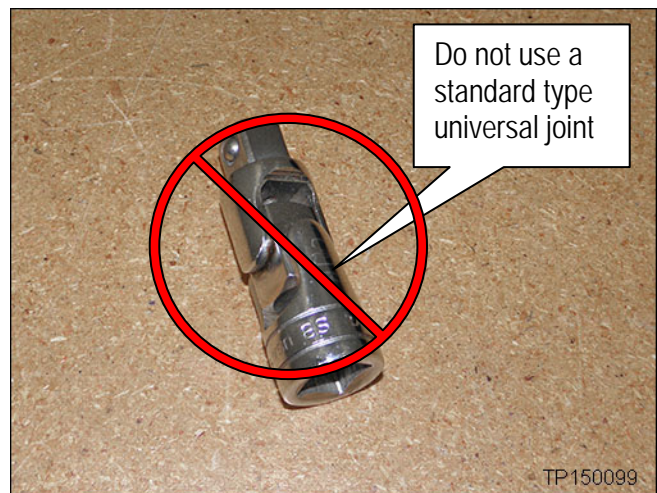

Figure A10
- Make sure the socket and universal joint are above the cooling hose (see Figure A10).